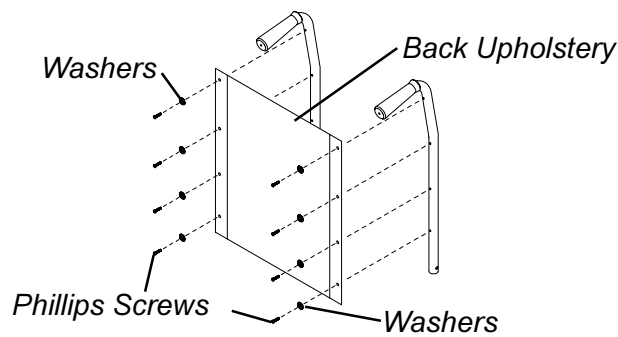

FIGURE 3 - REPLACING SCREW-ON BACK UPHOLSTERY
**REPLACING SCREW-ON BACK UPHOLSTERY (FIGURE 3)**